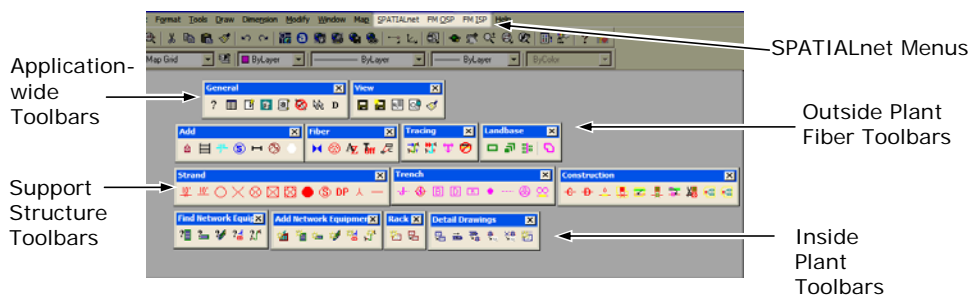

Figure 12 – Toolbars and Menus for SPATIALnet FM in AutoCAD
**Note:** If this is the first time you have run SPATIALnet on the machine you are using, or if you have just re-installed AutoCAD, you may see a large number of toolbars that you will not need to run SPATIALnet FM, or this tutorial. The menus and toolbars required are shown in Figure 12, below. You should verify that your AutoCAD environment contains these. Refer to AutoCAD user documentation for making toolbars and menus visible.
**Note:** The toolbars may be docked or may not be visible as shown in Figure 12. Right-clicking on any visible SPATIALnet toolbar pops up a menu that allows you to set the visibility of other SPATIALnet toolbars. For further information on managing toolbars and menus, see the `MENULOAD` command in the AutoCAD Users Guide.